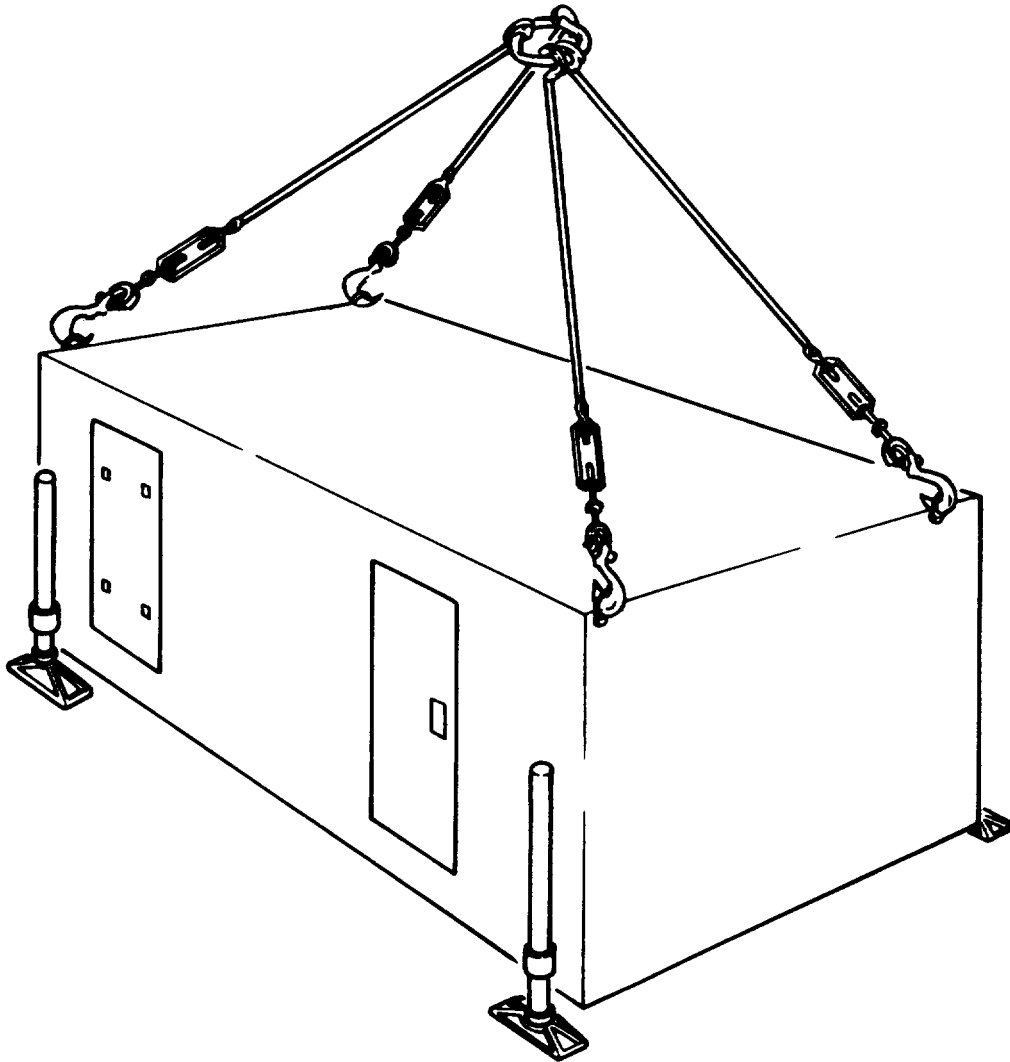

Figure 1-2. Shelter with Lifting Sling and Jacks (Streetside view)
1-6. The shelter is transportable by both mobilizers of the end mount type and of the van transporter type. Each end of the shelter contains brackets (4, 6) for mounting the end mount mobilizers. The underside of the shelter contains rails (8) for use in transporting the shelter using the van transporter. Lifting eyes (3) are provided at each upper corner of the shelter. Towing eyes (5) are provided at each lower corner of the shelter. A lifting sling is provided. Four demountable jacks are provided to level the shelter and for raising and lowering the shelter from the van transporter. The roof of the shelter contains the interface (2, 15) for mounting the air-conditioning group ducts. Refer to figure 1-2 for a lifting sling and leveling jacks configuration.